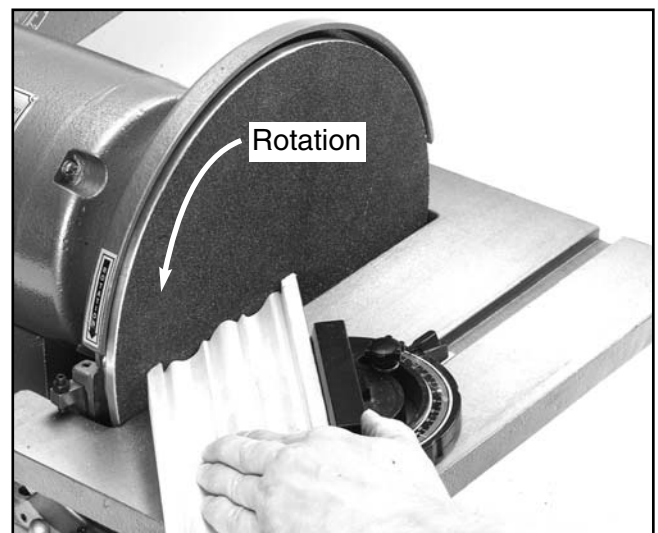

Figure 20. Mitering with gauge reversed.
3. With light, but firm pressure, push the workpiece slowly into the downspin side of the rotating disc. **See Figure 20.**